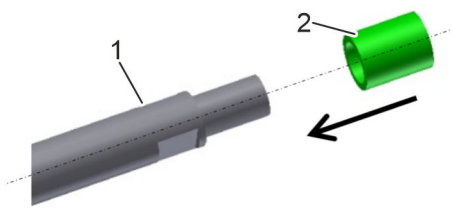

Fig. 14: Plastic bushing
2. → Slide the plastic bushing (Fig. 14/2) onto the measuring rod (Fig. 14/1).